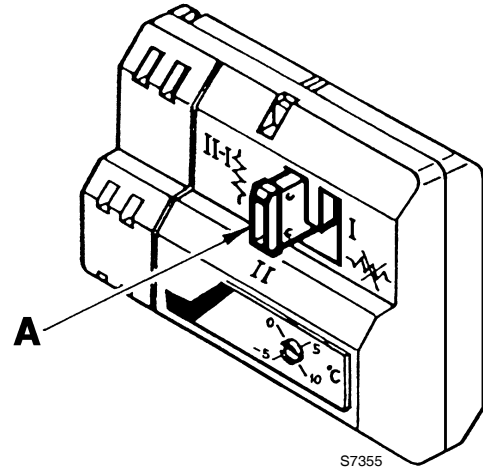

Fig. 26
This electronic start delaying device (Fig. 26) can be wired to a 2nd stage thermostat; in this case it performs two functions:
- 2 In relation of the position of the plug **A** (Fig. 26), it determines the type of required operation: